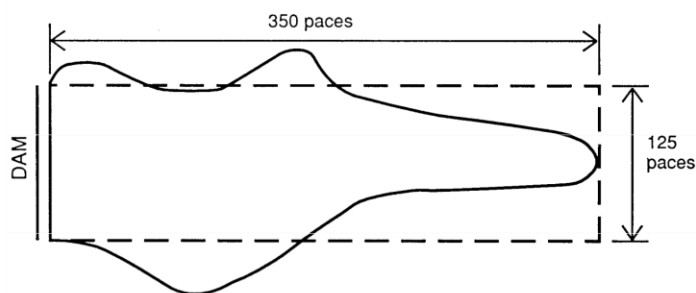

Figure 2. See instructions on how to calculate an irregularly shaped pond.
2. Draw a rectangle on the pond shape that would approximate the area of the pond if some water was eliminated and placed onto an equal amount of land. This will give you a rectangle on which to base the calculation of area (See Figure 2 below).